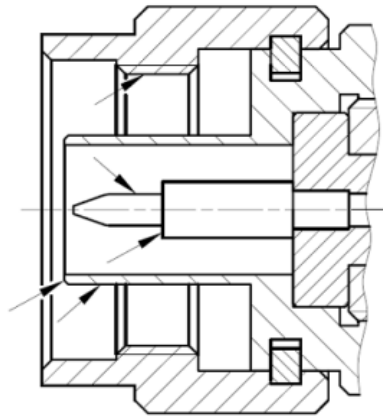

Figure 1. Connector type N, male
- Clean the connector surfaces shown by arrows in figure 1 with a lint-free cotton swab dampened with isopropyl alcohol.